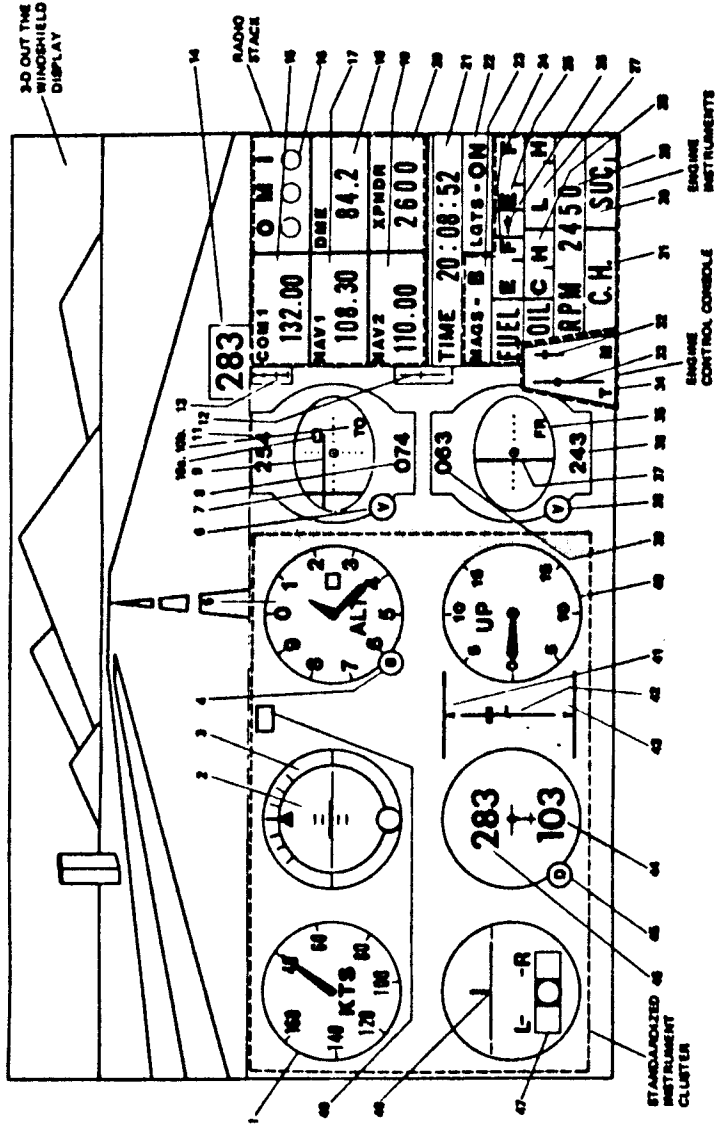

Figure 1. Display Screen
The FS2 has all instruments and equipment required under FAA regulations parts 91.33, 91.24, and 91.52 for day and night ~~visual~~ flight rules (VFR) and day and night instrument flight rules (IFR) under non-icing conditions, including flight within terminal control areas. A digital clock with an *hours, minutes, seconds* readout now is accepted in place of a sweep second hand for instrument flight and is used in the FS2. Figure 1 defines the simulator's 3D display, flight instruments and radios. The display screen is split horizontally into two sections: the upper 3D out-the-windshield display, and the lower half instrument panel and radio stack.
The six basic flight instruments are grouped in the standardized instrument cluster shown in Fig. 1. This cluster includes:
Six radios are provided: the NAV1 and NAV2 (navigation), COM (communication), DME (distance measuring equipment), ADF (automatic direction finder), and transponder (see Fig. 1).
The NAV radios (items 17 and 19) are used to tune-in and identify VOR navigation aids (to be covered later). These are 200-channel radios that receive frequencies between 108.00 and 117.95 MHz with 50 kHz separation. These receivers control the omni-bearing indicators (Fig. 1, items 6-11 and 35-39). The NAV1 radio controls the top omni-bearing indicator, and the NAV2 radio controls the bottom omni-bearing indicator.